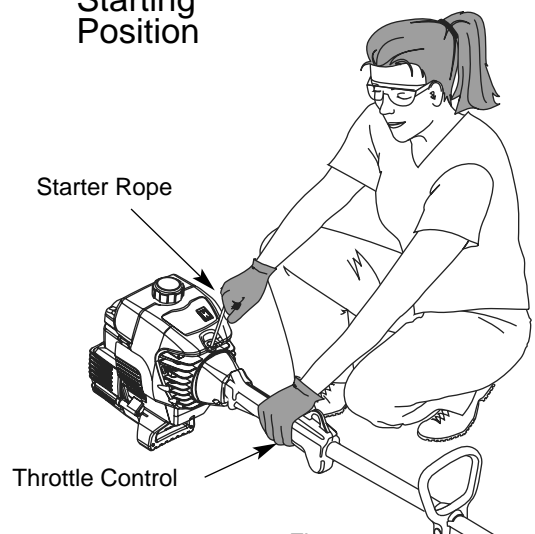

Fig. 8
WARNING: Avoid accidental starting. Make sure you are in the starting position when pulling the starter rope (Fig. 8). To avoid serious injury, the operator and unit must be in a stable position while starting.
5. Crouch in the starting position (Fig. 8) and squeeze the throttle control. Pull the starter rope out with a controlled and steady motion 5 times.